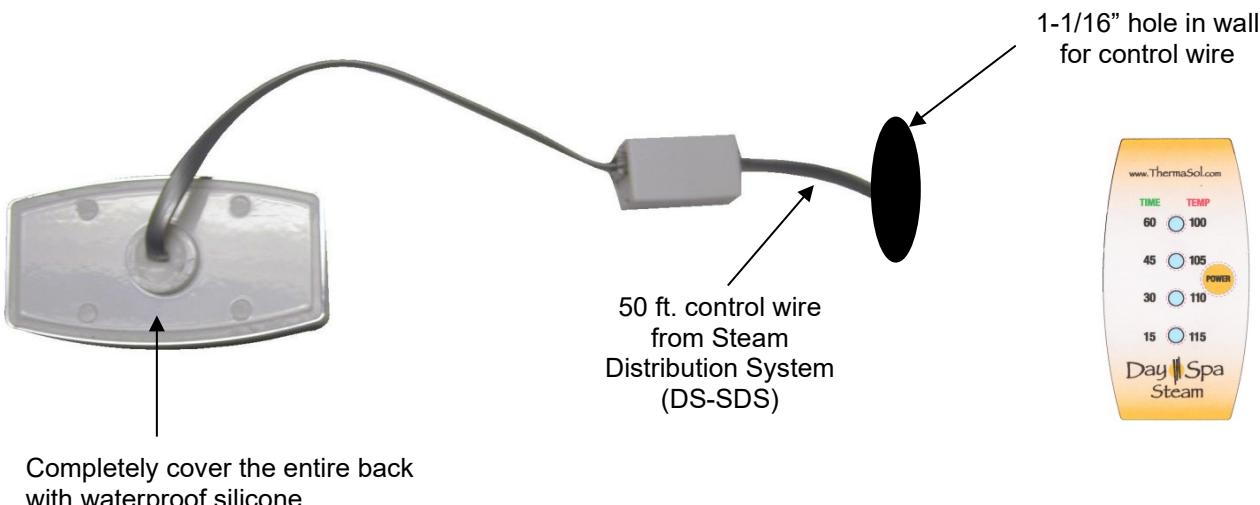

Figure 6
6. Test the touch pad to ensure it is properly connected. If any problems arise, call **THERMASOL-Technical Support (800) 776-0711**.
7. **THESE STEPS MUST BE TAKEN OR YOUR WARRANTY WILL BE VOID.** Coat the entire control back with supplied waterproof silicon. Completely seal the control to the wall so moisture does not get behind it. Place the control on the wall pressing firmly. You may need to tape the control into place until the silicone dries. Be careful not to harm the wall and/or control with the tape. (**Figure 6**)